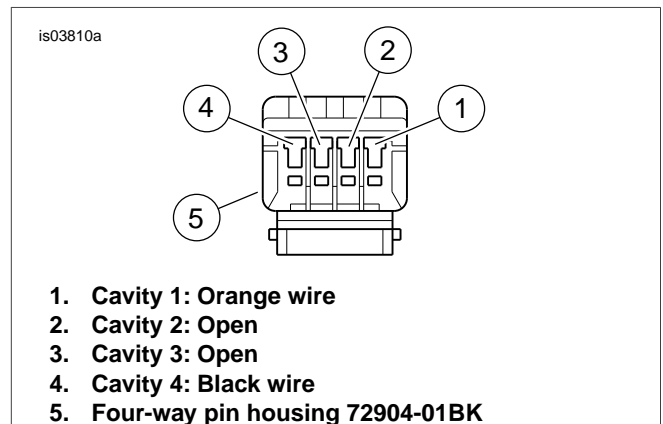

Figure 3. Four-Way Pin Housing (Viewed From Wire End)
5. **For 2001-2002 carbureted FLHR models:** Install the two wires with pin terminals (D) into the correct cavities of the four-way pin housing [117A] removed from the O.E. analog fuel gauge in **Analog Fuel Gauge Removal**, Step 4. See Figure 3 and the AMP MULTILOCK ELECTRICAL CONNECTORS, INSTALLING SOCKET/ PIN TERMINALS section in the Service Manual.